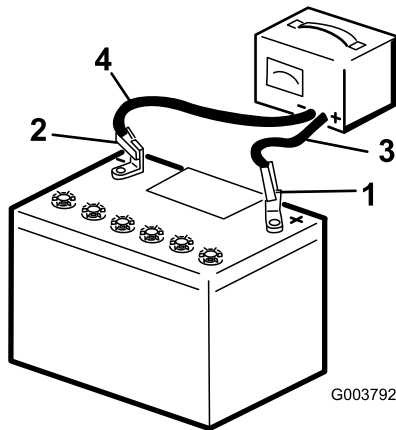

Figure 48
2. Charge the battery for 4 to 8 hours at a rate of 3 to 4 A (Figure 48). Do not overcharge the battery.
3. When the battery is fully charged, unplug the charger from the electrical outlet, then disconnect the charger leads from the battery posts (Figure 48).